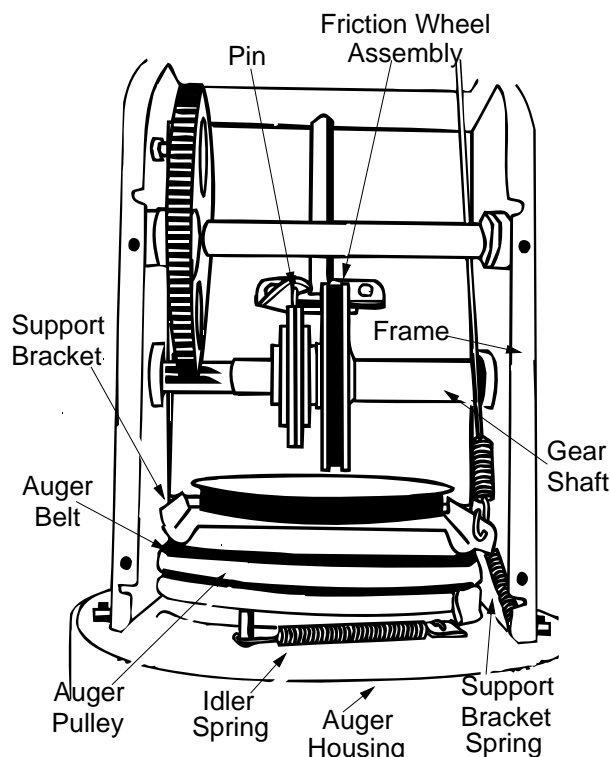

**Figure 23**
5. Roll the front and rear auger belts off the engine pulley. See Figure 23.
8. Lift the rear auger belt from the auger pulley, and slip belt between the support bracket and the auger pulley. See Figure 23. Repeat this step for the front auger belt.
2. Pull idler pulley up, and lift belt off engine pulley and friction wheel disc. See Figure 23.